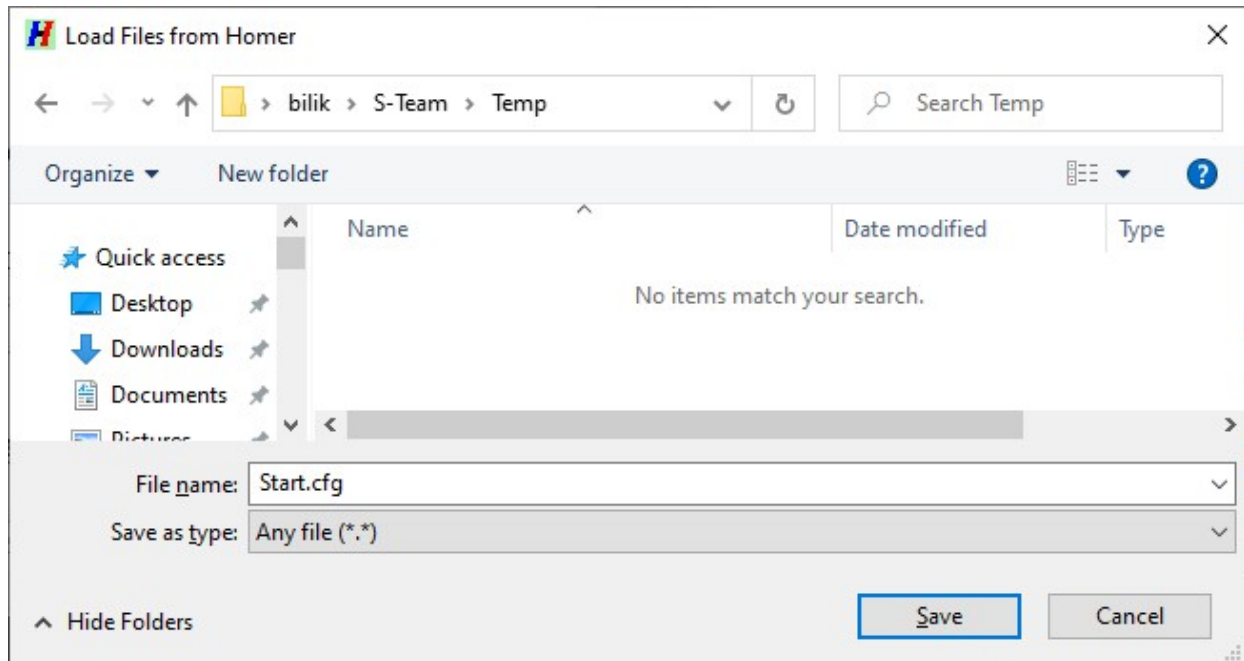

Fig. 24. Load Files from Homer dialog.
- Browse for the folder on your PC to which you wish the downloaded file to be copied. The dialog may look as shown in Fig. 24.